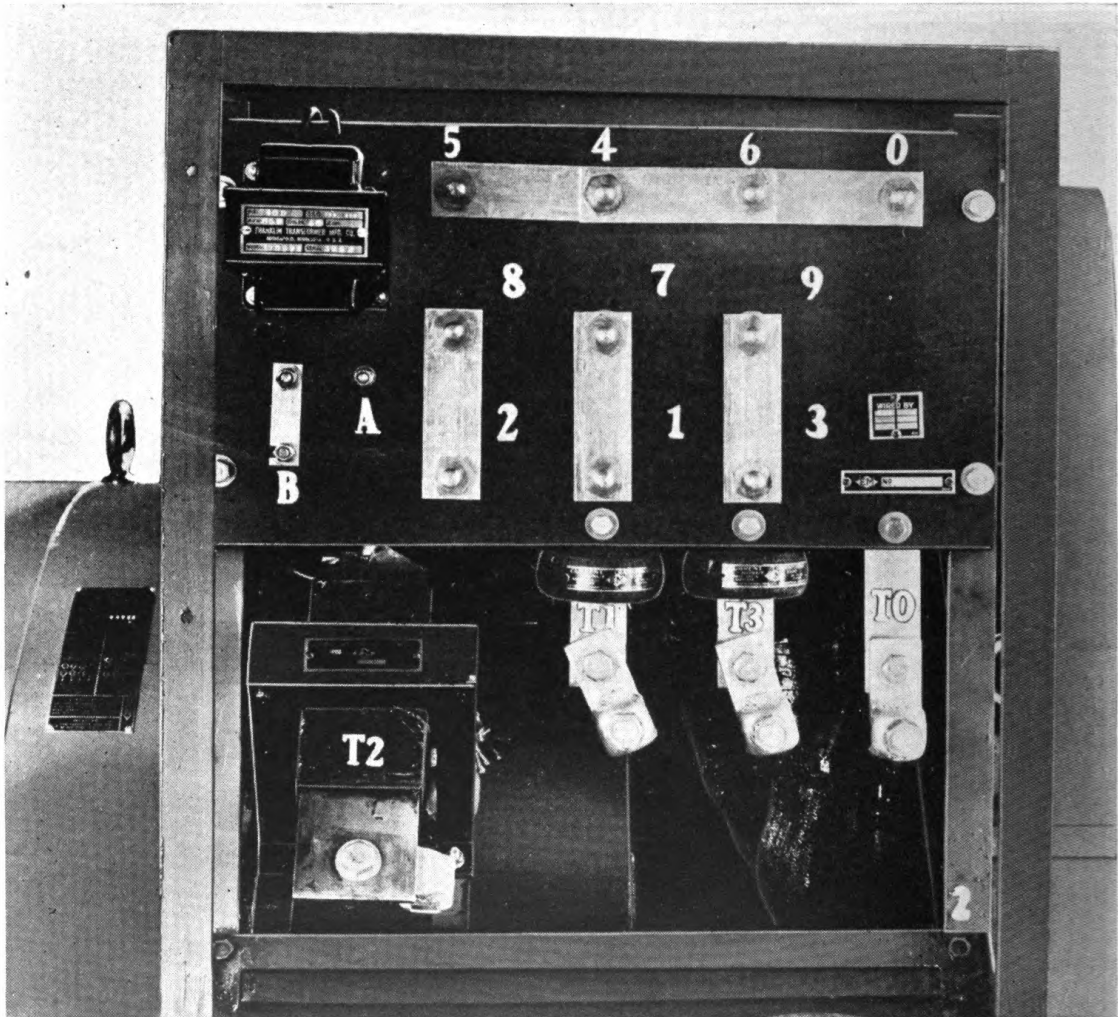

FIG. 3—Terminal Box Connections for 400/230 Volt, 60 Cycle, 1200 Rpm. Operation
- Figure 3 Terminal box connections for 400/230 volt, 60 cycle, 1200 rpm. operation.